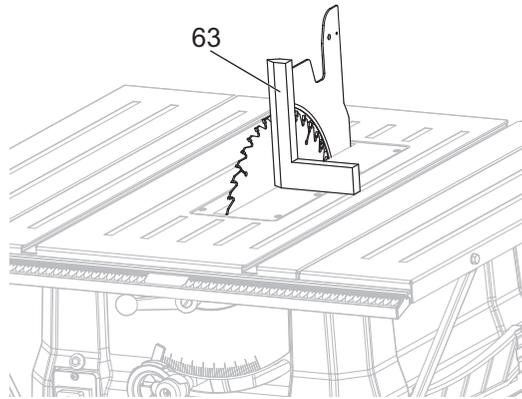

Fig. 34
- > Using a square [63], set the blade to exactly 90°. (Fig. 34)